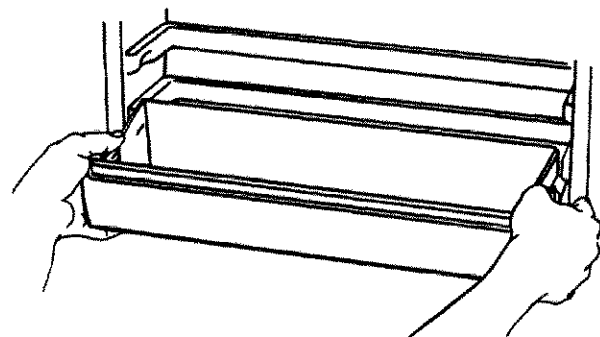

Figure 8
- Move bucket by holding lock tabs in and pulling bucket straight out. See Figure 8.